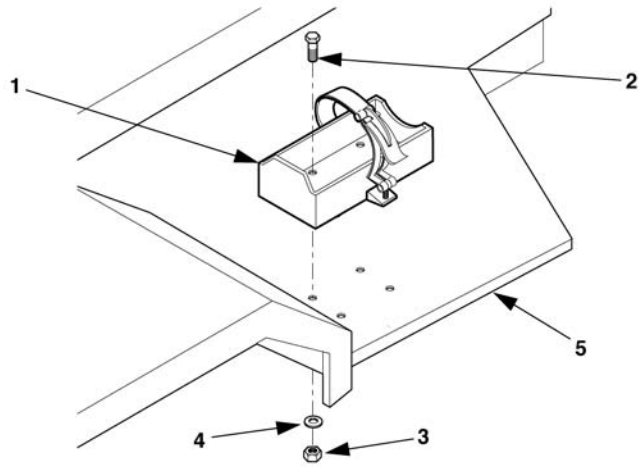

Figure 4-19. Bracket, Fire Extinguisher Replacement.
1. Remove fire extinguisher from bracket (1, Figure 4-19).
2. Remove four self-locking nuts (3), flat washers (4), bolts (2), and remove fire extinguisher bracket from trailer (5).